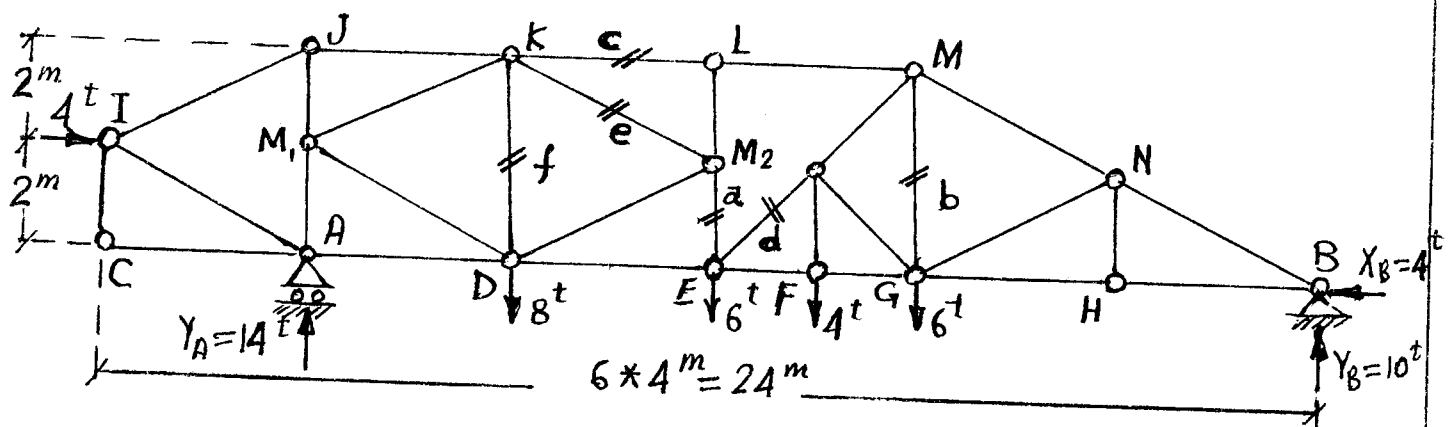

Fig. 5
5. For the truss shown in Fig.5, Find analytically the forces in the marked members a, b, c, d, e, and f. (18 marks)